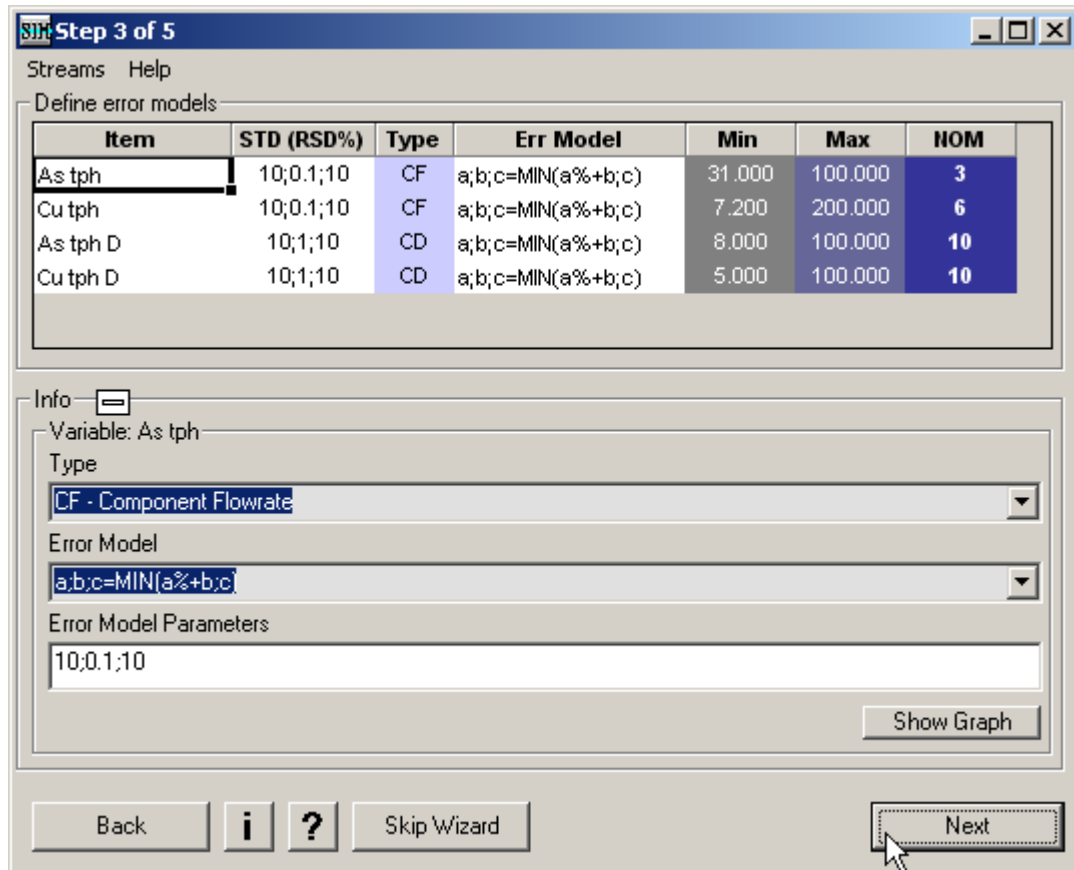

Figure 13. Step 3.
4. In the Step 3 you can edit the error models. Here we use the default values, i.e. flowrates the relative error is 10%, detection limit is 0.1 and max standard deviation is 10 tph. For distribution the relative error is 10%, detection limit 1% and max standard deviation is 10 percentage values. (Figure 13). Press Next.